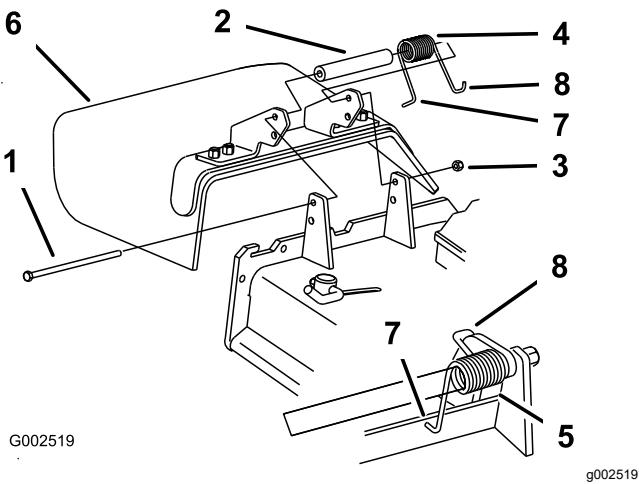

Figure 57
1. Remove the locknut, bolt, spring and spacer holding the deflector to the pivot brackets (Figure 57).
Note: Make sure that the **L** end of the spring is installed behind the deck edge before installing the bolt as shown in Figure 57
5. Place the **J**-hook end of the spring around the grass deflector (Figure 57).